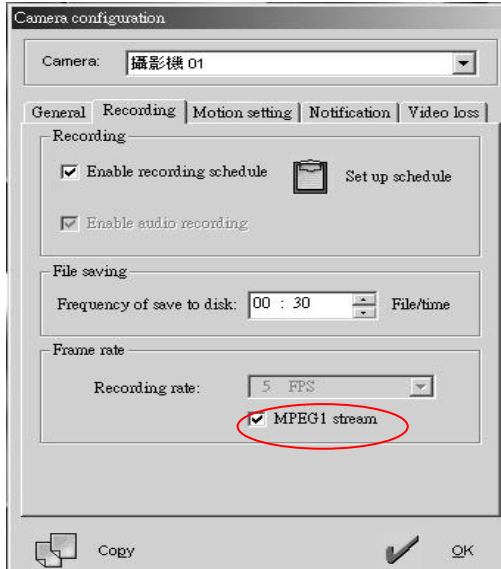

Fig. 6-4 (for Witness DX Pro only)
1. If user enable **MPEG1 stream**, as shown on Fig.6-4, it means you want to execute hardware compression then only date, time and watermark could not be shown on **remote PC**. Neither Local DVR Server nor remote PC can show date, time and watermark on monitor